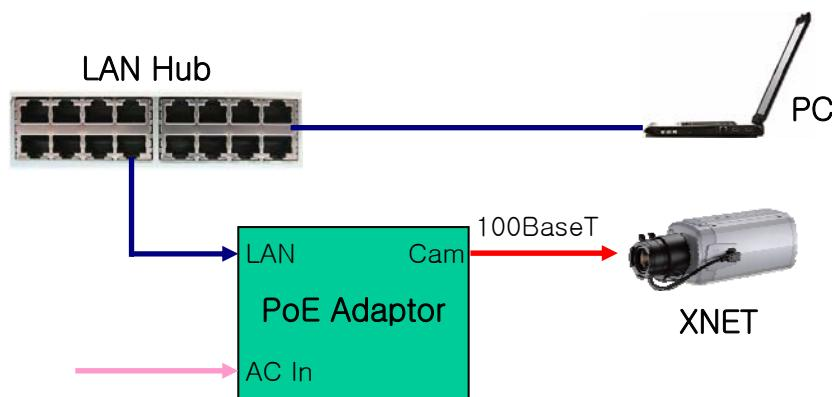

Figure 2-5. Connecting Network camera and PC using PoE Adaptor
① Connect XNET/XNET-Wireless to the LAN by using one of the following method
- i. If you have power adaptor with PoE, connect the network camera and PC as illustrated in Figure 2.5. Both power and network connection is made with a single LAN cable. The proprietary PoE (Power over Ethernet) adds convenience in installing the network camera by providing both power and LAN connection using single LAN cabling.